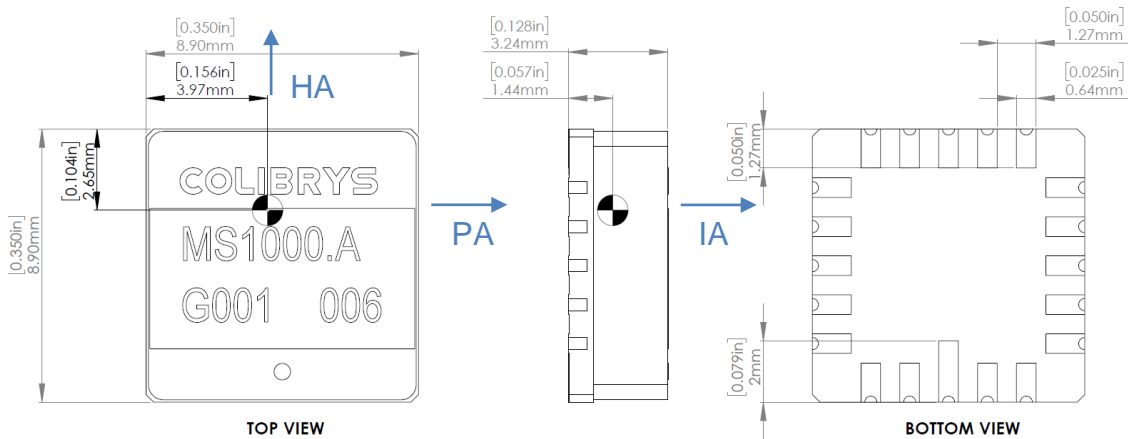

Figure 7: Package mechanical dimension. Units are mm [inch]
The outline of the LCC20 ceramic package and the Center of Gravity (CG) is illustrated in the Figure 7.